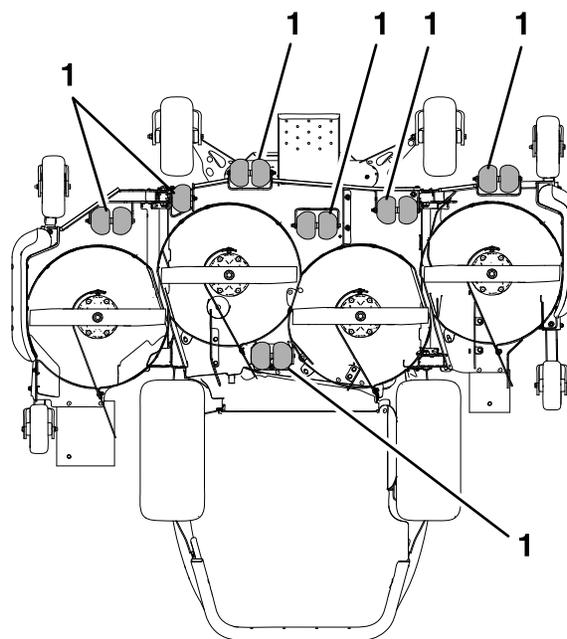

**Figure 30**
5. Place the rollers in 1 of the positions shown in Figure 30.